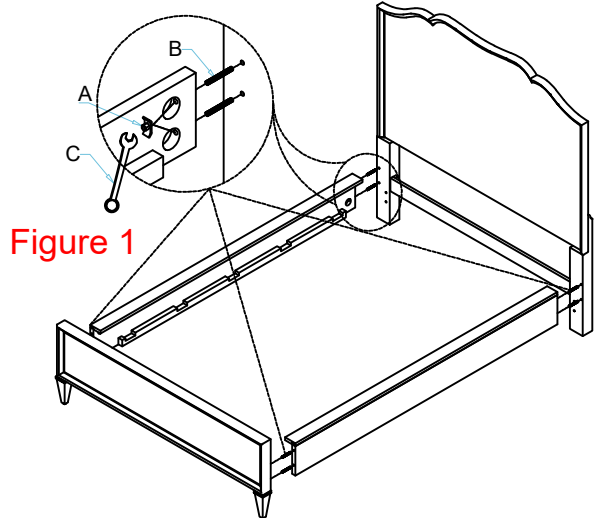

Figure 1
1. Screw the bolt (B) into the threaded insert of the Headboard post .
2. Then slide bed rail over the bolts until they are visible in the holes on the inside of the rails. Attach Side Rail to the Headboard post by using Hexagonal Nuts + Curved Washers (A) and tighten all nuts with Spanner Wrench (C).
3. Repeat the same for the Footboard. (See Figure 1)